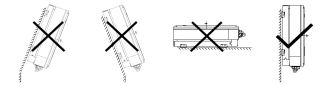

Figure 2: Installation position
- 2- The installation surface should be perpendicular to the horizontal line. Please refer to figure 2 here below.